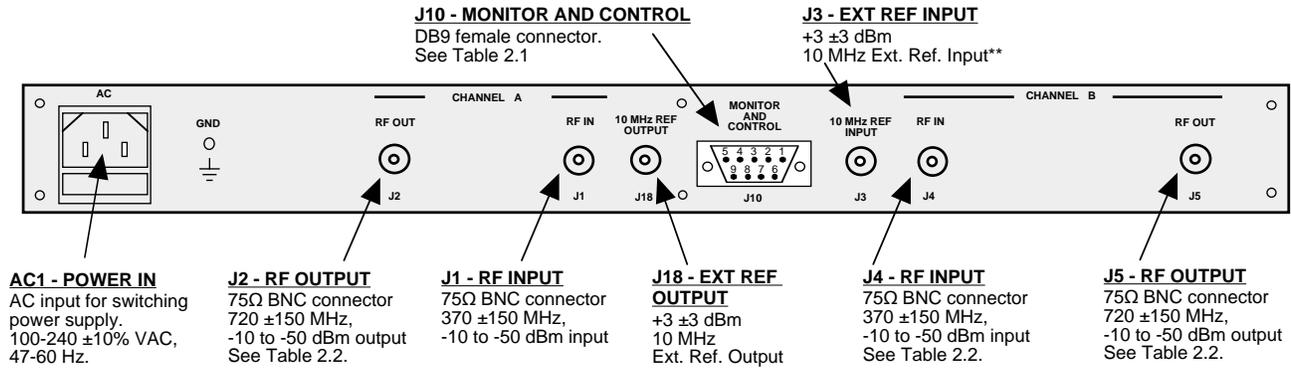

FIGURE 2.1 2083-0372 Rear Panel I/O's
Figure 2.1 shows the input and output connectors on the rear panel.
1. Connect a -10 dBm to -50 dBm signal to IN, J1/J4 (Figure 2.1)